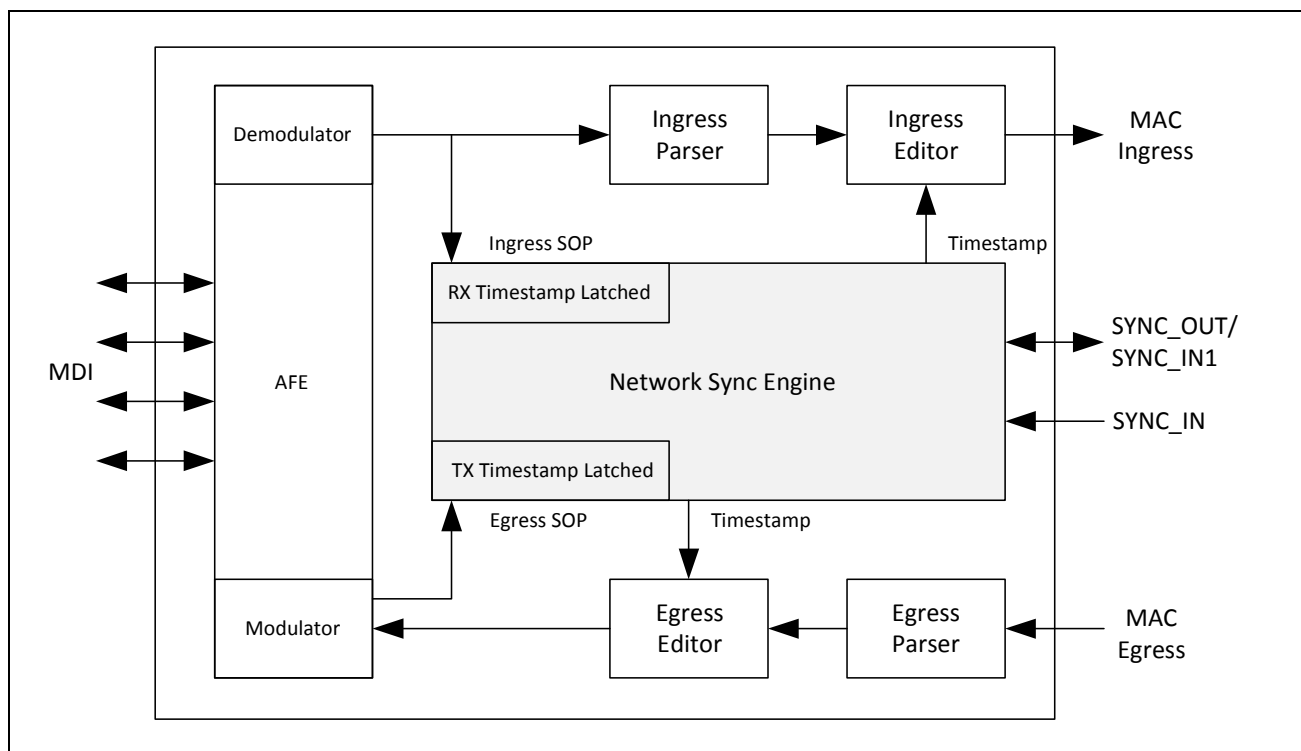

Figure 7: One Port of the PHY with IEEE 1588 Support
A one-step clock provides time information using a single event message, which means that Follow_Up messages are not sent. Special hardware is required to embed the timestamps in the out-going packets. The BCM54285 has the internal hardware to update the timestamps. Timestamping is done as close as possible to the MDI, ensuring the highest accuracy. The PHY can update Correction Fields (CF) included in IEEE 1588 packet messages. The PHY supports updating CF on IEEE 802.1AS, IEEE 1588 L2, IEEE 1588 IPv4/UDP, and IEEE 1588 IPv6/UDP packets. Figure 7 shows a block diagram of one port of the PHY showing ingress and egress parsers to parse the packets, as well as the Network Synchronization Engine (NSE) which handles external synchronization and updating the CF.